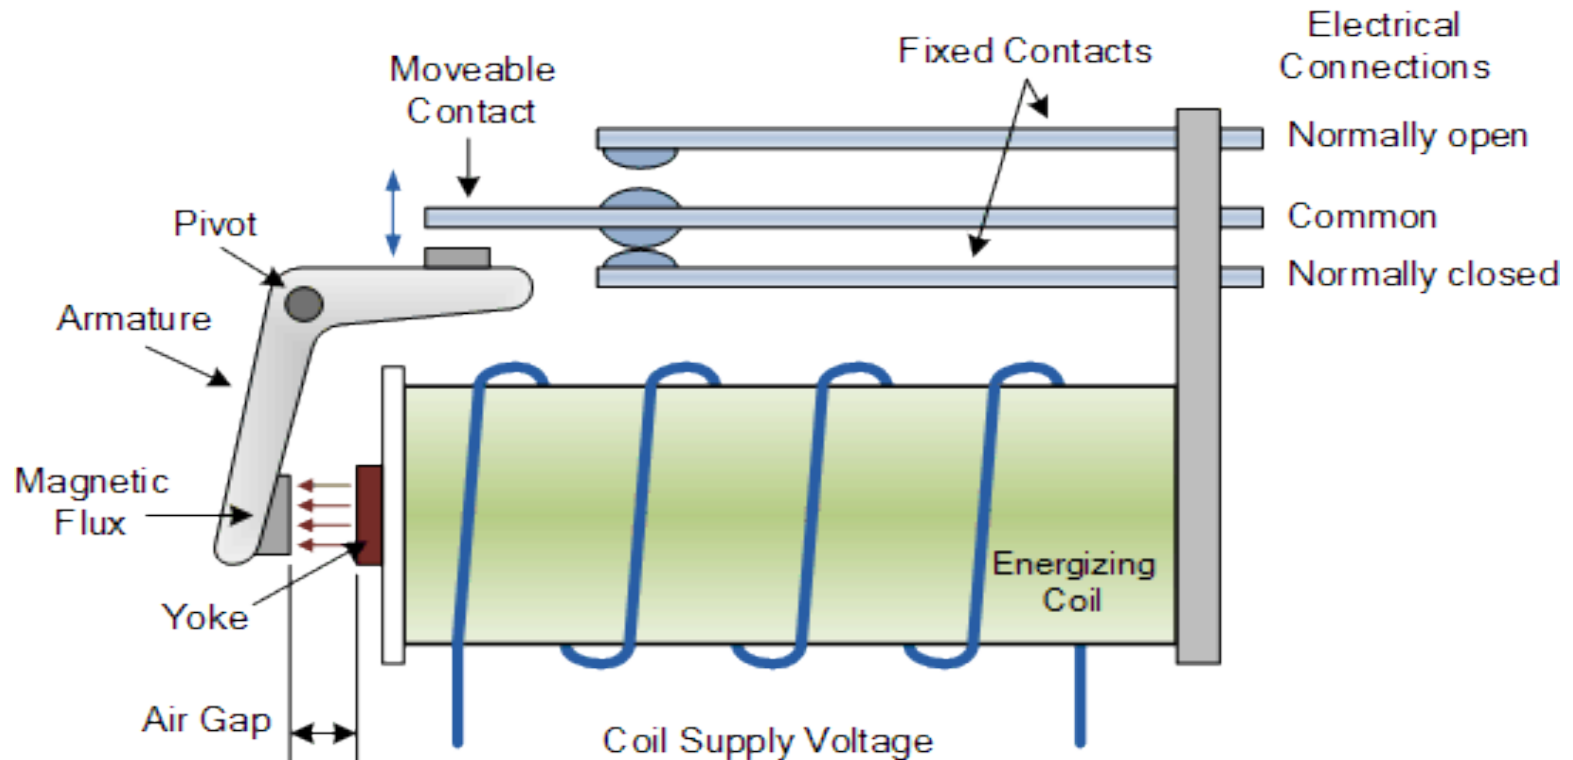

Fig 1: Parts of a simple electromechanical relay
- In the simple relay shown in fig 1, we have two sets of electrically conductive contacts.
- Relays may be "Normally Open", or "Normally Closed". One pair of contacts are classed as Normally Open, (NO) or make contacts and another set are classed as Normally Closed, (NC) or break contacts.